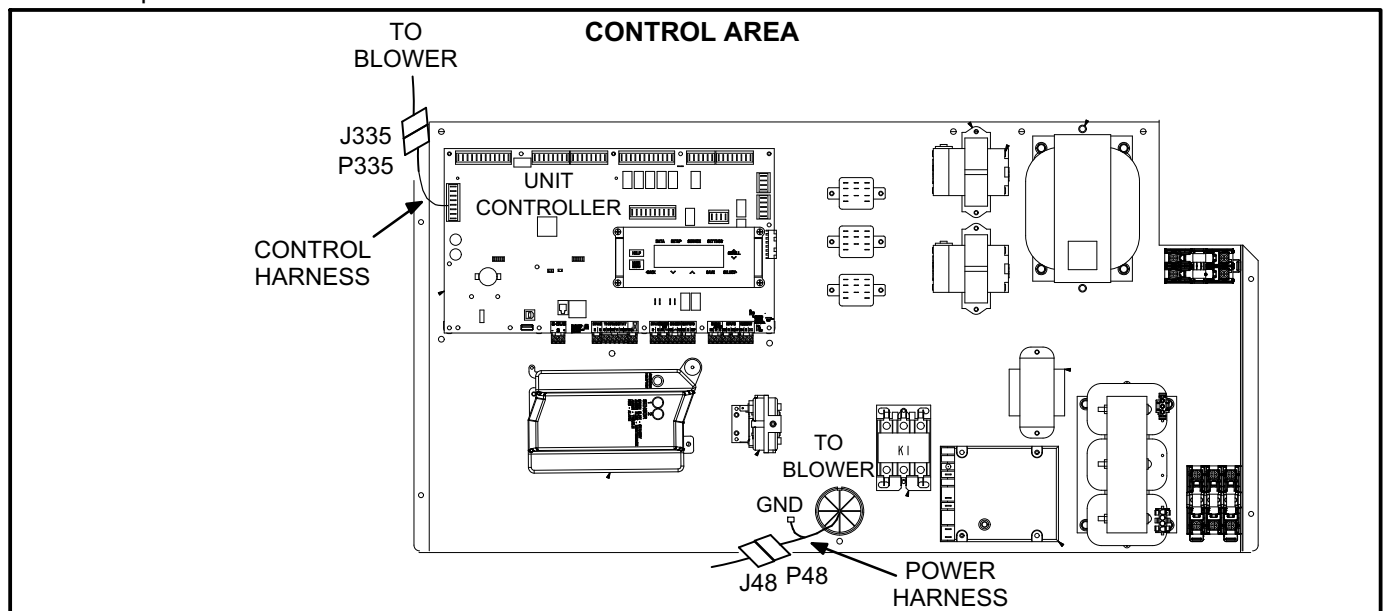

FIGURE 2
- 4- Disconnect J335 from P335 in the controls area. See figure 2.
- 12- Connect P48 and J335 to J48 and P335 as shown in figure 2.